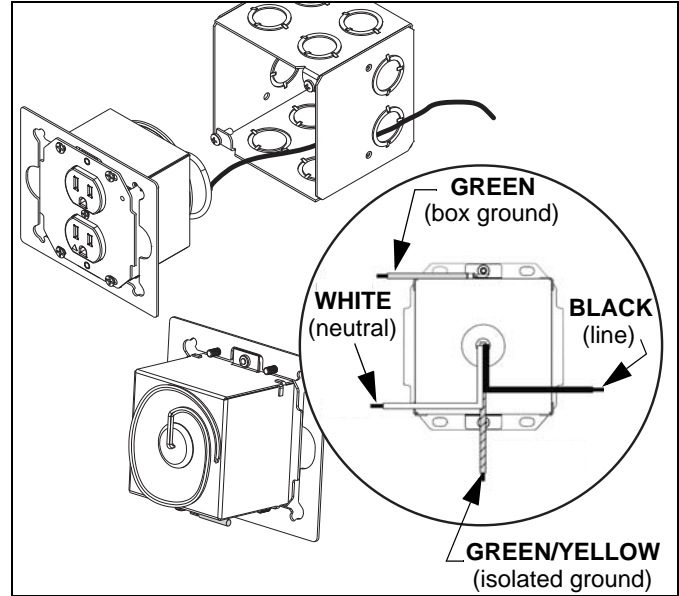

Figure 3
- Wire the outlet box as required. Refer to Table 1 and Table 2 for input and output specifications. (See Figure 3)
6. Wire the outlet box as required. Refer to Table 1 and Table 2 on previous page) for input and output specifications. (See Figure 3)